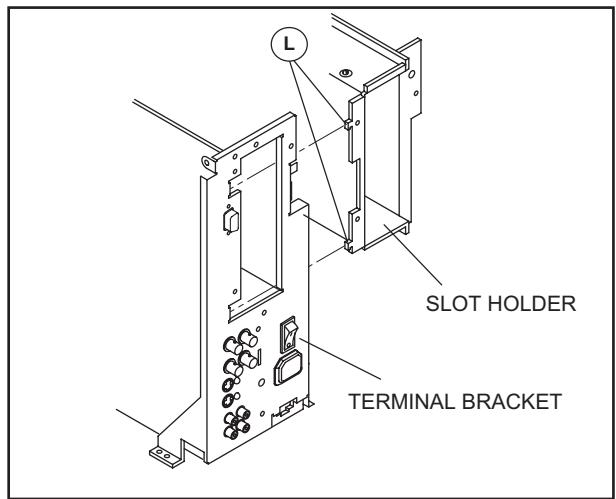

Fig.2
- (6) Pull the PW connector out from the MAIN PWB, connected between the MAIN POWER SWITCH and MAIN PWB.
- (7) As shown in Fig.2, lift the SLOT HOLDER slightly, and remove the 2 claws [L] attached SLOT HOLDER with the TERMINAL BRACKET.